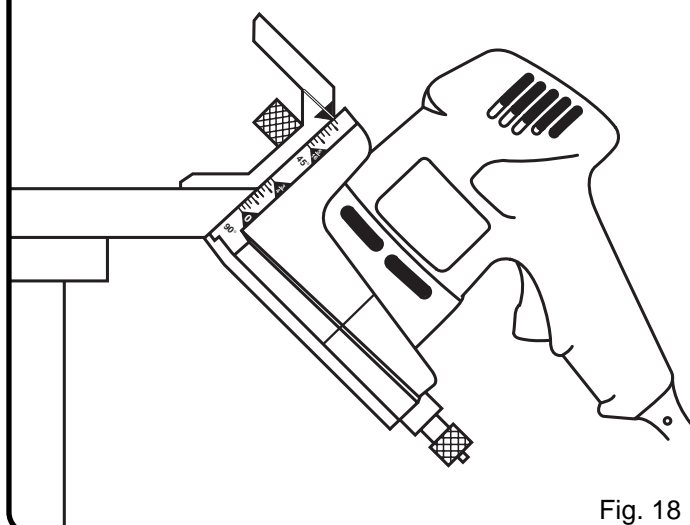

Fig. 18
- When making edge miter joints with workpieces that have different thicknesses, clamp securely to a workbench with the long sides up. This will assure that the outside surfaces will match. *See Figure 18.*
- Place your biscuit joiner on workpiece with the fence resting on the long side of workpiece as shown in figure 18. The front base should be against the mitered edge of the workpiece.